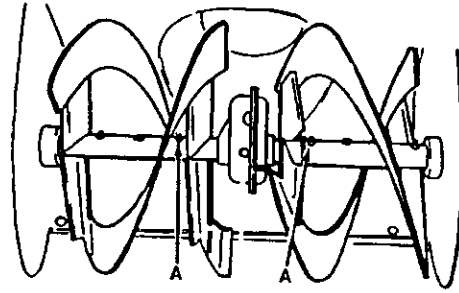

Figure 22
1. **Auger Shaft** – Using a hand grease gun, lubricate the auger shaft zerk fittings (A) every ten (10) operating hours. Each time a shear bolt is replaced, the auger shaft **MUST** be greased. See Figure 22. See **To Replace Auger Shear Bolt** in the **Service and Adjustment** section.